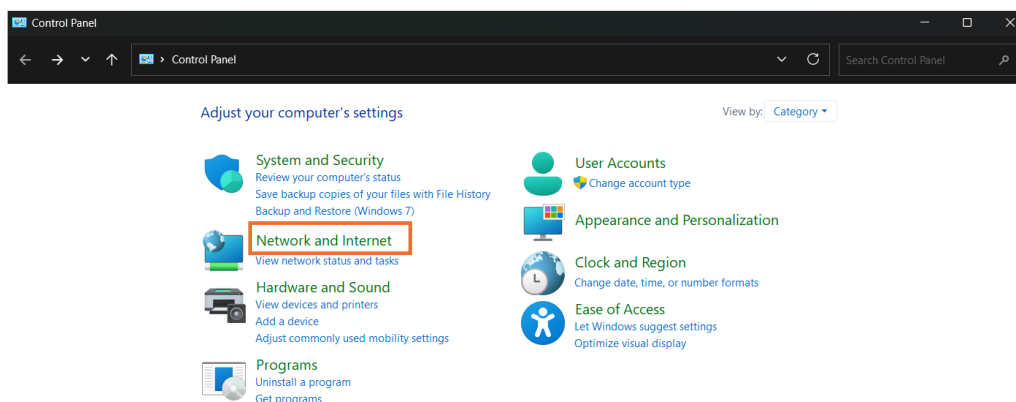

Figure 5.23. Control Panel
- b. Click **Network and Internet** as shown in Figure 5.23.